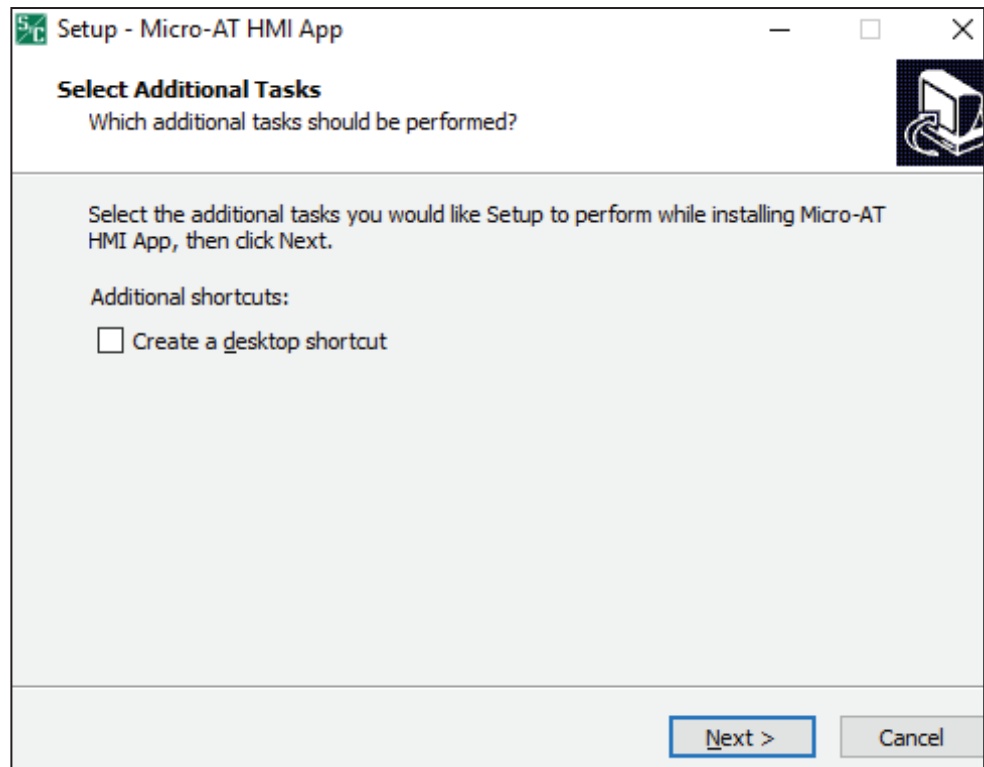

Figure 1. The screen to execute the HMI installer.
STEP 3. Launch the installer file **MAT_HMI_installer_signed.exe**. See Figure 1.